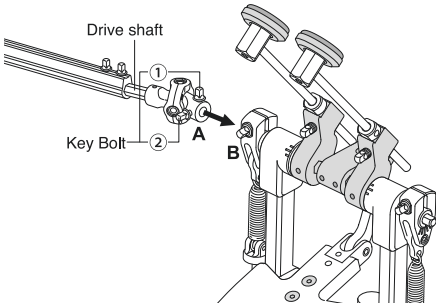

Fig. 6
Connect the ends of the Drive Shaft (A) to the short extensions (B) on the Main and Secondary Side Pedals and tighten Key Bolt 1 and then Key Bolt 2 (Fig.6 ,7).